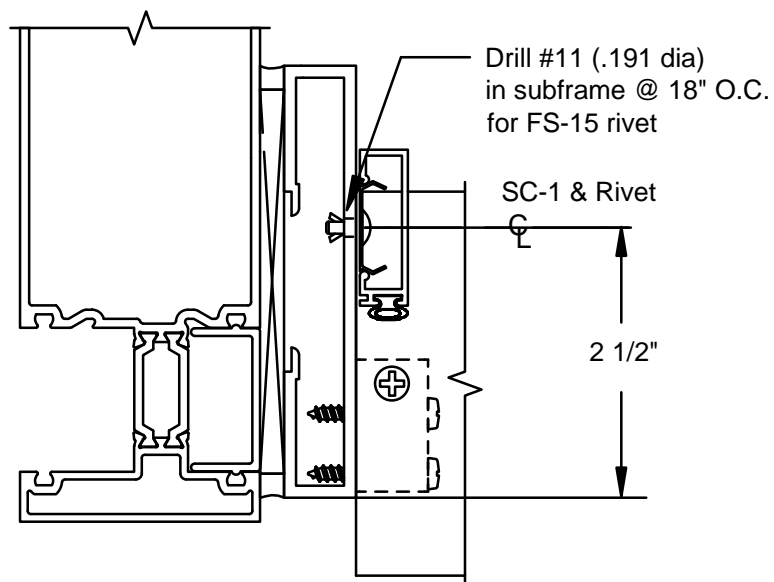

FIGURE 41
- C.2.5 Drill #11, .191 diameter holes in D-186 subframe for FS-15 rivets. Install door stops onto subframe with SC-1 clips @ 18" O.C. Locate clips around the subframe anchor screws. SEE FIGURE 41, Page 39. Vertical stops run through.